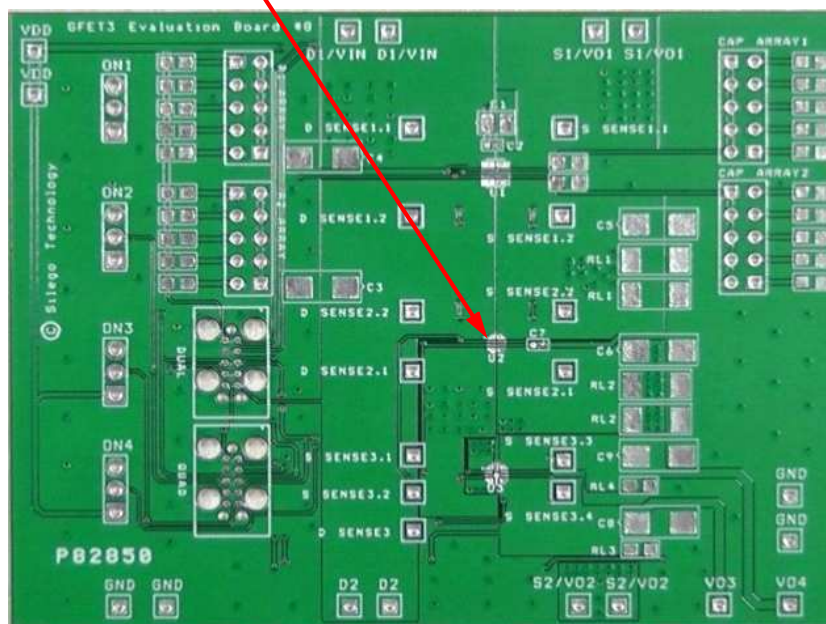

Figure 1. SLG59M1639V Evaluation Board
1. Since the VIN[1,2] and VOUT[1,2] pins dissipate most of the heat generated during high-load current operation, it is highly recommended to make power traces as short, direct, and wide as possible. A good practice is to make power traces with an absolute minimum widths of 15 mils (0.381 mm) per Ampere. A representative layout, shown in Figure 1, illustrates proper techniques for heat to transfer as efficiently as possible out of the device;
A GreenFET Evaluation Board for SLG59M1639V is designed according to the statements above and is illustrated on Figure 1. Please note that evaluation board has D\_Sense and S\_Sense pads. They cannot carry high currents and dedicated only for RDSON evaluation.